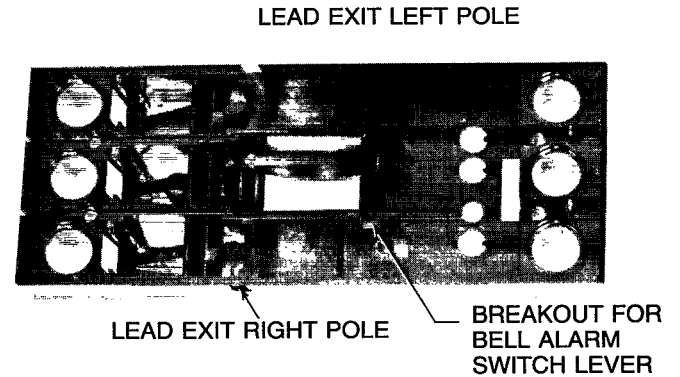

Figure 6
6. Slot cover for lead exit. Remove breakout for lever clearance as shown. (Fig. 6 and 7). Make certain entire knockout is removed. (File recommended).